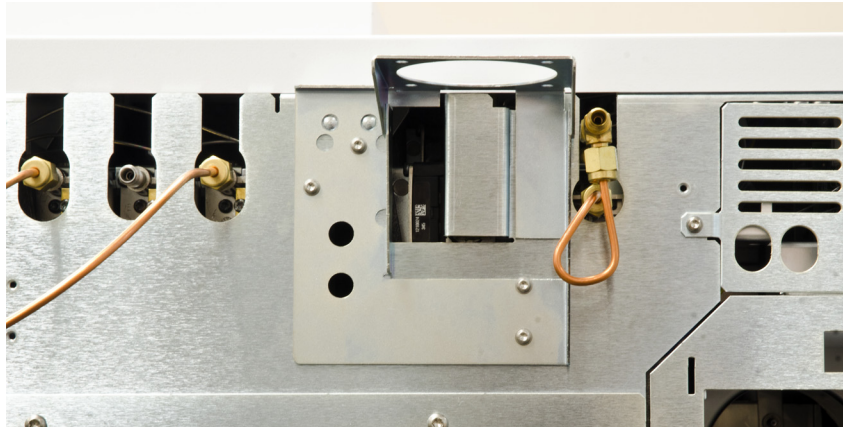

Figure 13. Bracket 5003-1356 installed to 7890 GC
- 2 Using a T-10 Torx driver, install the four T-10 screws to secure the bracket to the GC. See Figure 13.